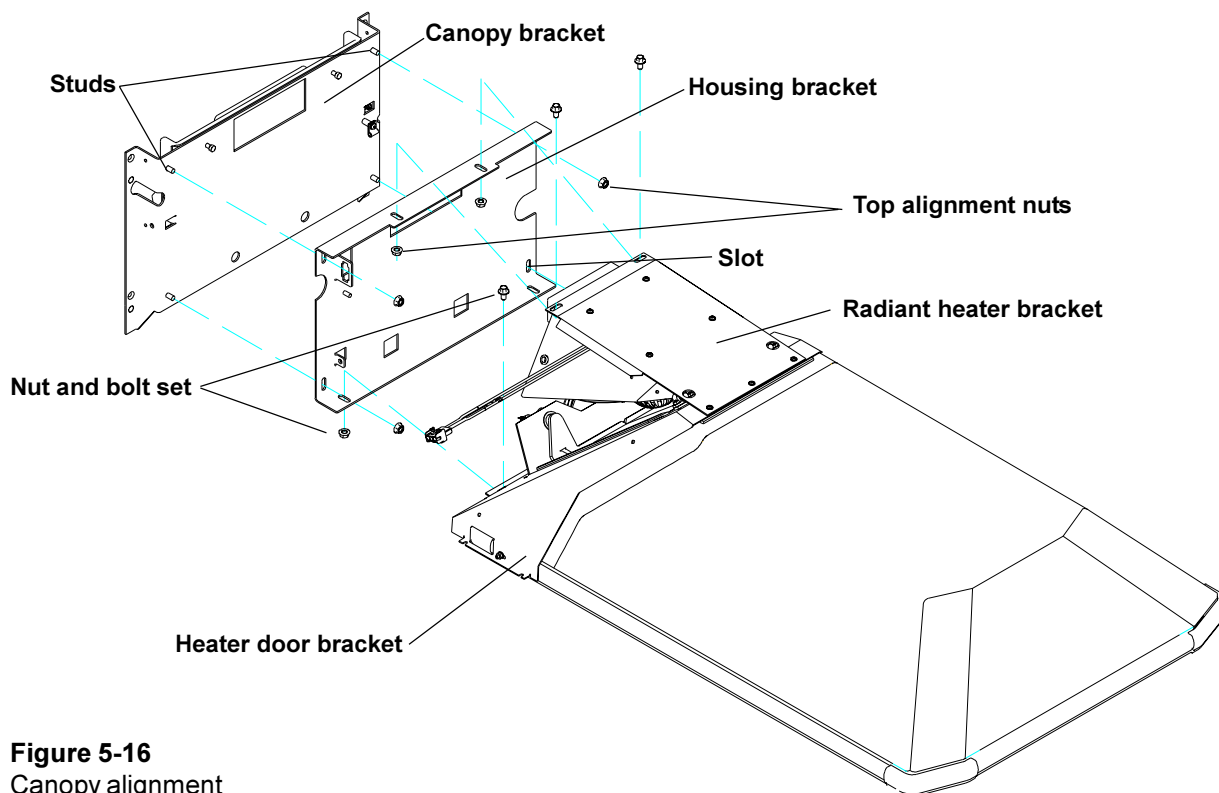

Figure 5-16
5.311 Realigning the canopy (Figure 5-16)